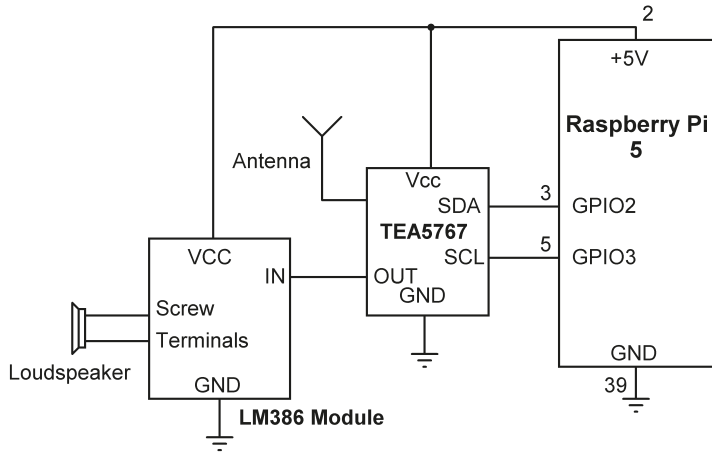

Figure 4.79: Circuit diagram of the modified project.
**Circuit diagram:** The modified circuit diagram is shown in Figure 4.79. The amplifier module is operated at +5 V supply voltage taken from the Raspberry Pi 5.